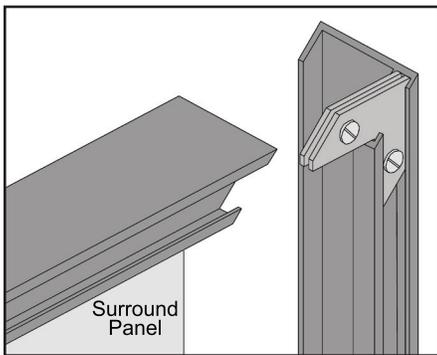

Figure 16: Corner brackets for trim.
- a) Attach one side trim to the top trim using a corner bracket (see Figure 16) to secure pieces together.